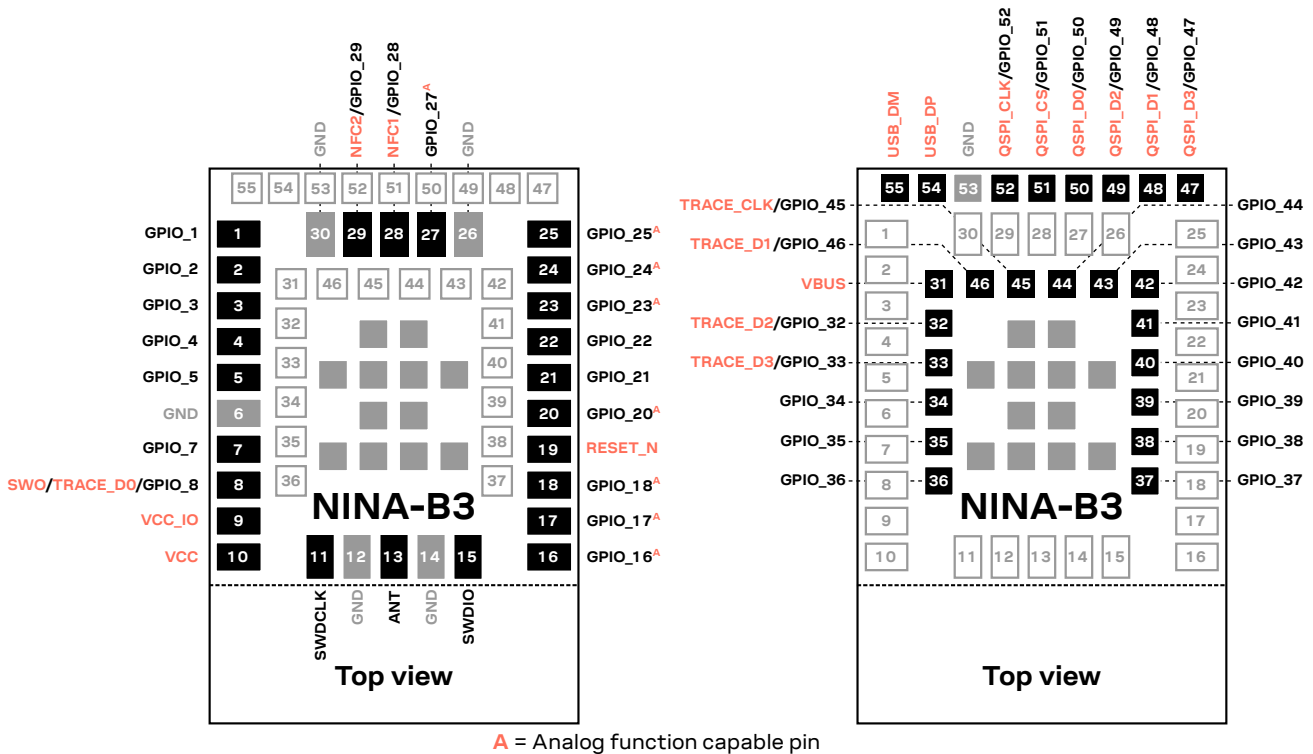

Figure 3: NINA-B30 series pin assignment (top view)
The pin-out described in Figure 3 is an example assignment that shows the module in an unconfigured state.
The grey pins in the center of the modules are GND pins. The outline of NINA-B301 ends at the dotted line as shown in Figure 3, where the antenna area of the NINA-B302 begins.
- Most of the digital or analog functions described in this data sheet may be freely assigned to any GPIO pin. Analog functions are limited to analog capable pins. Signals that are highlighted in red in Figure 3 are not freely assignable but locked to a specific pin.